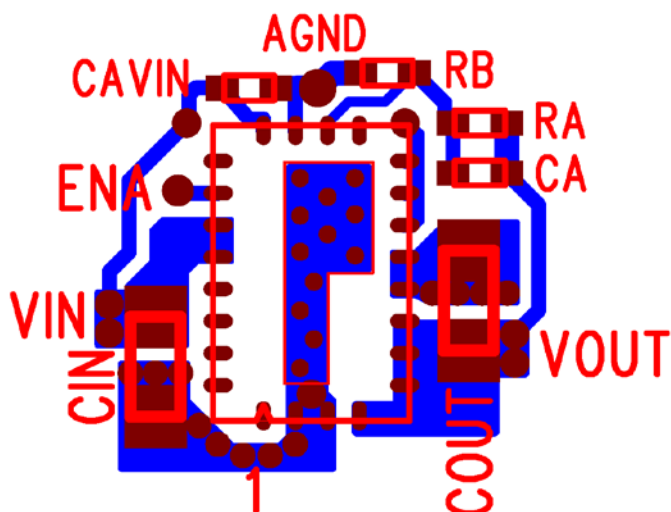

Figure 9. Optimized Layout Recommendations
**Recommendation 5:** AVIN is the power supply for the small-signal control circuits. It should be connected to the input voltage at a quiet point. In Figure 9 this connection is made at the input capacitor. Connect a 1 $\mu$ F capacitor from the AVIN pin to AGND.